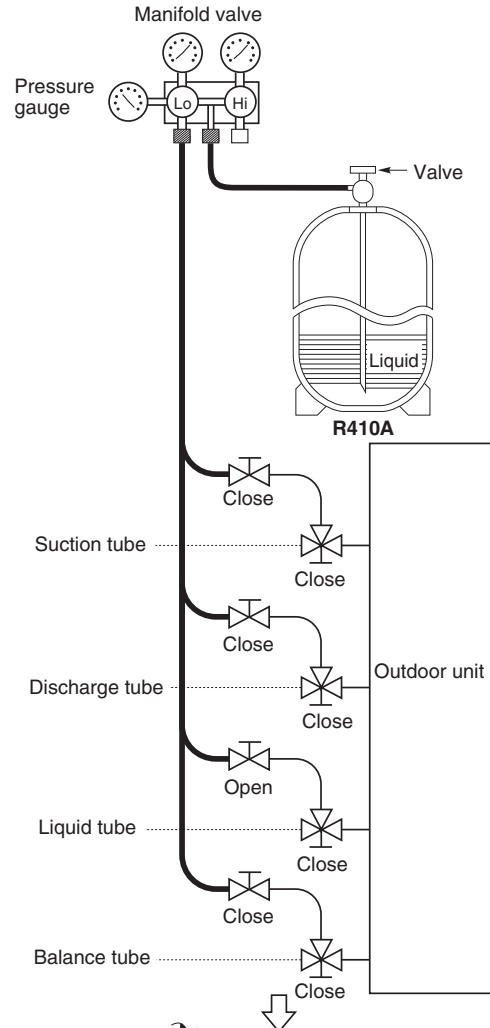

Fig. 6-5
- Charging additional refrigerant (calculated from the liquid tube length as shown in Section 1-8 “Additional Refrigerant Charge”) using the liquid tube service valve. (Fig. 6-5)